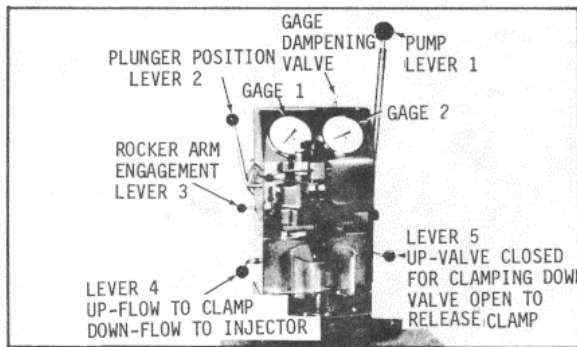

Fig. 13 Injector in Position for Testing with Tester J
- (1) Refer to Fig. 13 and position the injector tester levers as follows:
- (1) Move lever 4 down and operate pump lever 1 with even strokes (Fig. 13).
- (2) Note the pressure at which the needle valve opens on gauge 1. The valve should open between 2300 and 3300 psi. The opening and closing action should be sharp and produce a normal, finely atomized spray pattern.